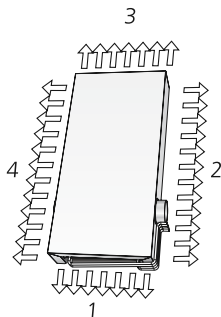

Figure 7. Top view nozzle setting, double-module unit sides 1-4.
* All four sides of the unit can be adjusted individually. The description of the nozzle setting follows the order shown in figure 7. See example shown in figure 8.